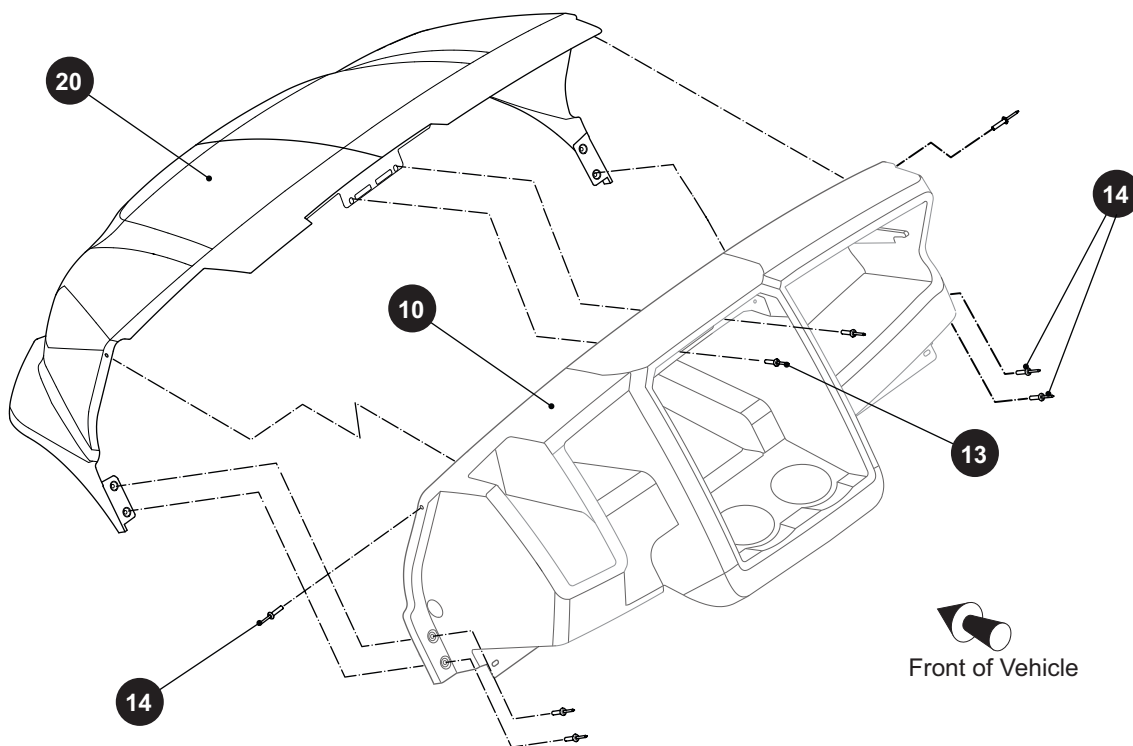

Figure 4 Cowl
2. Remove the screws (12) from the gauge panel (15) (See Gauge Panel Replacement on page 10).
3. Pull down the front of the gauge panel (15) and drill out the upper rivets (13) securing the cowl (20) to the instrument panel (10).
4. Drill out the remaining rivets (13) (Ref. Figure 4).
5. Remove the cowl assembly (20) from the vehicle.